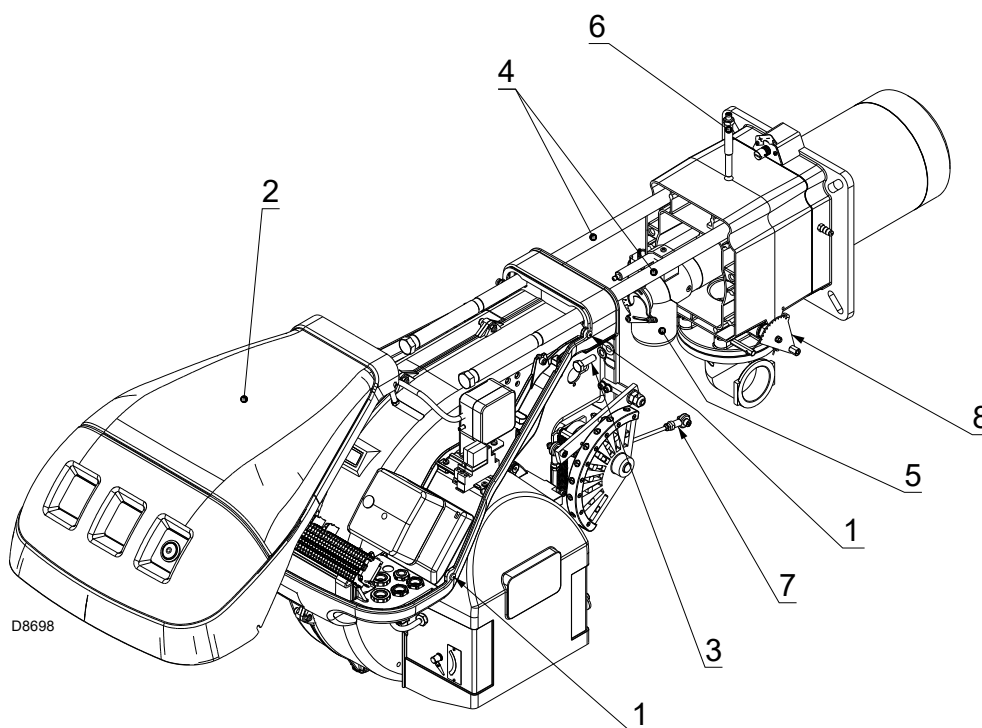

Fig. 40
Check the gas outlet holes for the ignition phase (in the distributor of the combustion head) are free of impurities or rust. If in doubt, disassemble the elbow 5)(Fig. 40 on page 34).
- Loosen the screws 1) and remove the hood 2)(Fig. 40).
- Replace the screws 3)(Fig. 40) and carefully pull the probe and electrode cables out until they are slightly taut.